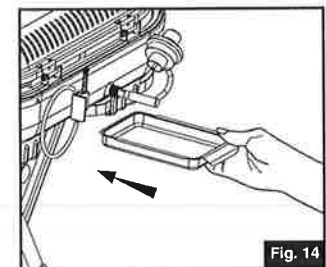

Fig. 14
- Install drip tray below rear of grill. (Fig. 14)